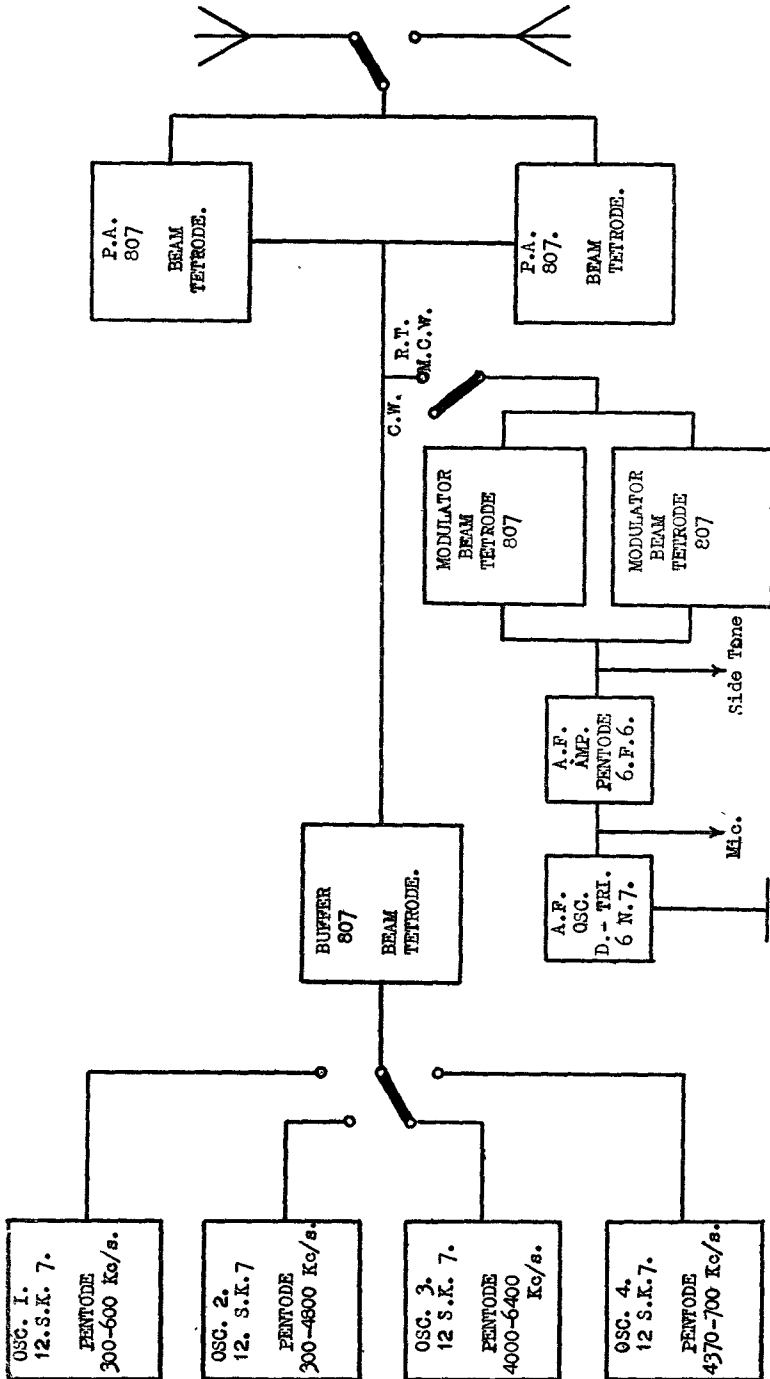

Fig. 92.—Block diagram transmitter, T.A.—12B.
3. **Transmitter** (block diagram fig. 92).—(i) *Frequency range.*—There are four ranges :—